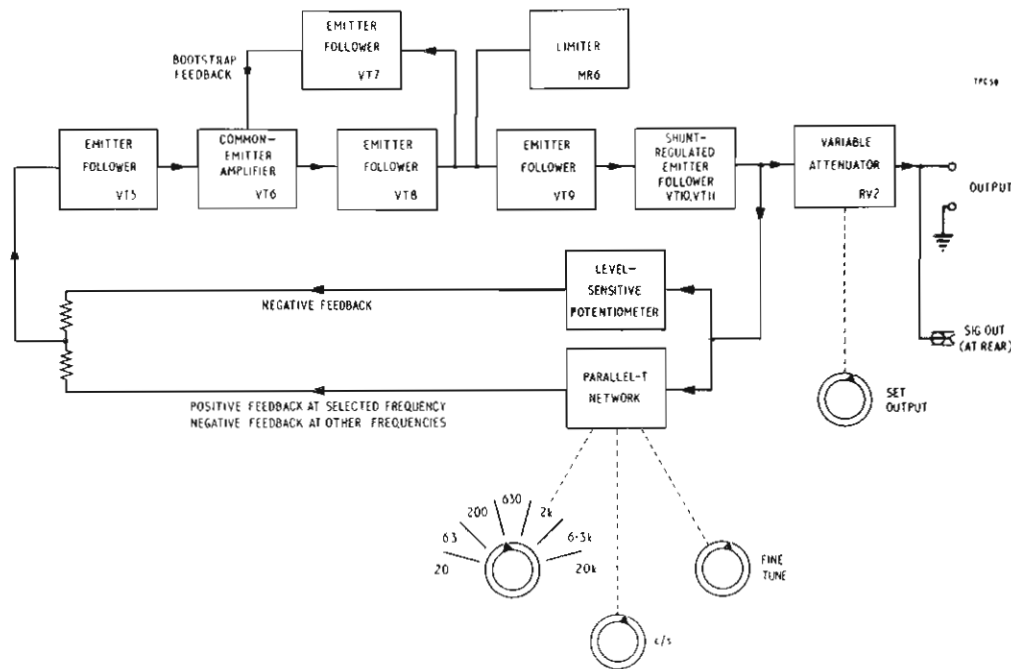

Fig. 1 Block diagram of oscillator
1. Basically, the oscillator consists (Fig. 1) of a multistage transistor amplifier, two overall feedback loops creating and stabilizing oscillation, and an attenuator controlling the output. The instrument also contains a power supply circuit.